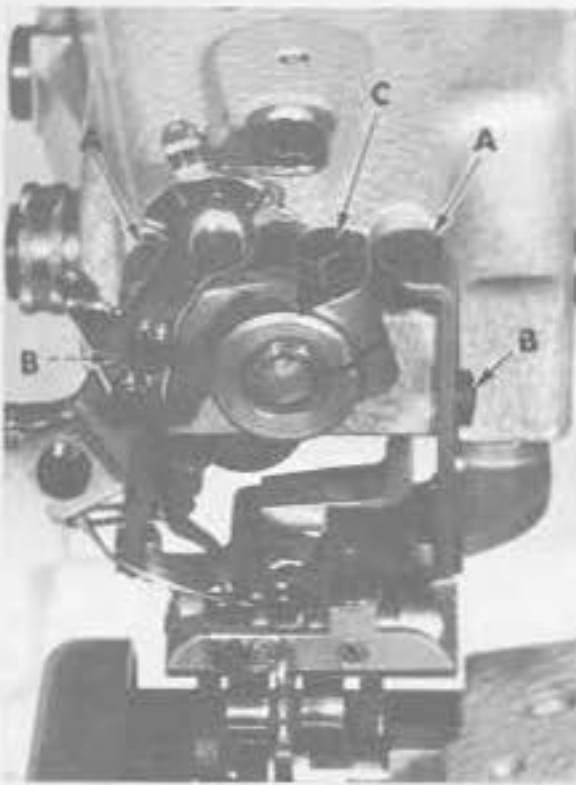
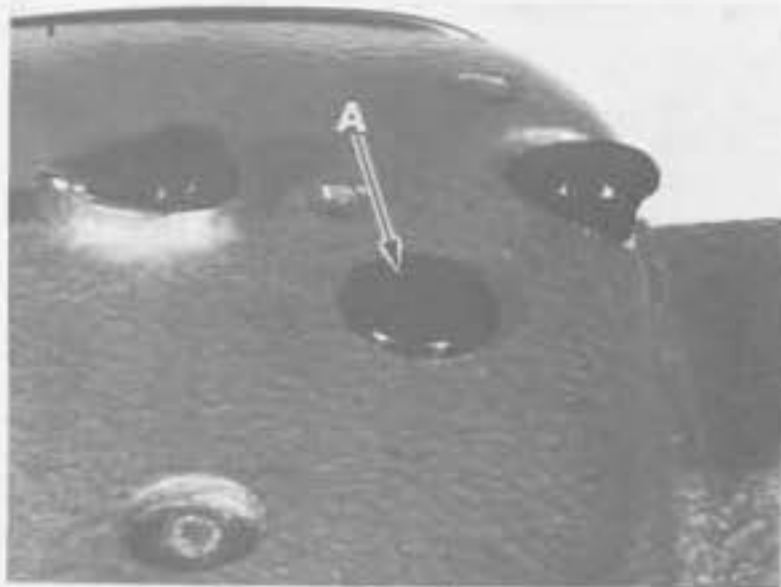

Fig. 3
Fig. 4
If adjustment is required, loosen screws (A, Fig. 3) on top of presser foot brackets, so that the heads do not contact the brackets. Loosen screws (B) on the side of each bracket, move presser foot up, retighten screws (B) just enough to hold the presser foot up. Adjust the top screws (A) equally, a little at a time, to obtain the above settings. After screws (B) have been tightened, no further adjustment of the top screws (A) should be attempted.
rubber plug (A, Fig. 4). Loosen the clamp screw in needle crank (accessible through the hole). Turn the handwheel in operating direction until the needle carrier is at its extreme right end of travel. Remove head cover and turn the needle eccentric ball stud (A, Fig. 5) so that its slot is vertical and punch marks in the ball stud are down, as viewed in (Fig. 5). The needle eccentric ball stud is located in the head, at the rear near the top. Retighten the clamp screw and recheck the position of the needle point in relation to the left side of looper opening. Loosen needle carrier clamp screw (C, Fig. 3) and rotate carrier as required for above setting. The needle carrier should be set front to back so the side of the needle is flush to .003 inch (.076 mm) from vertical wall at the right side of presser foot. It may be necessary to slightly retard or advance the above adjustments to obtain desired results.